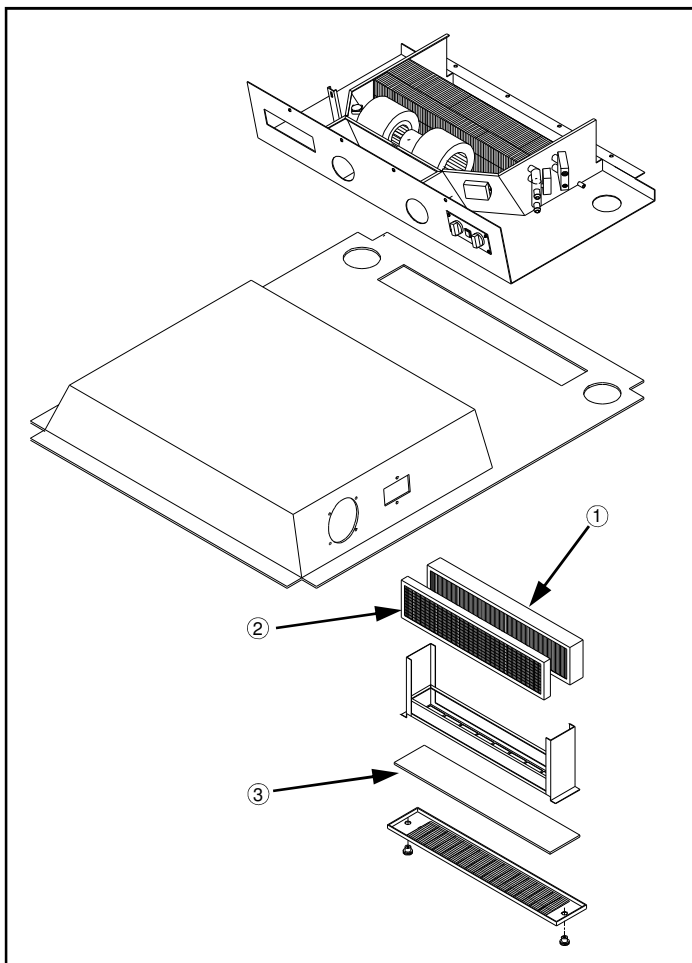

FIG 64-2
**PAPER FILTER** - (fig. 64-2, item 1) The paper filter should be cleaned once a year, or more often if necessary. Remove the paper element and gently tap it against a flat surface. Direct low
**CHARCOAL FILTER** - (fig. 64-2, item 2) Remove and replace at the first sign of chemical odor entering the cab.
**RECIRCULATING FILTER** - (fig. 64-2, item 3) The recirculating filter may be cleaned with soap and water. Replace if it becomes worn.